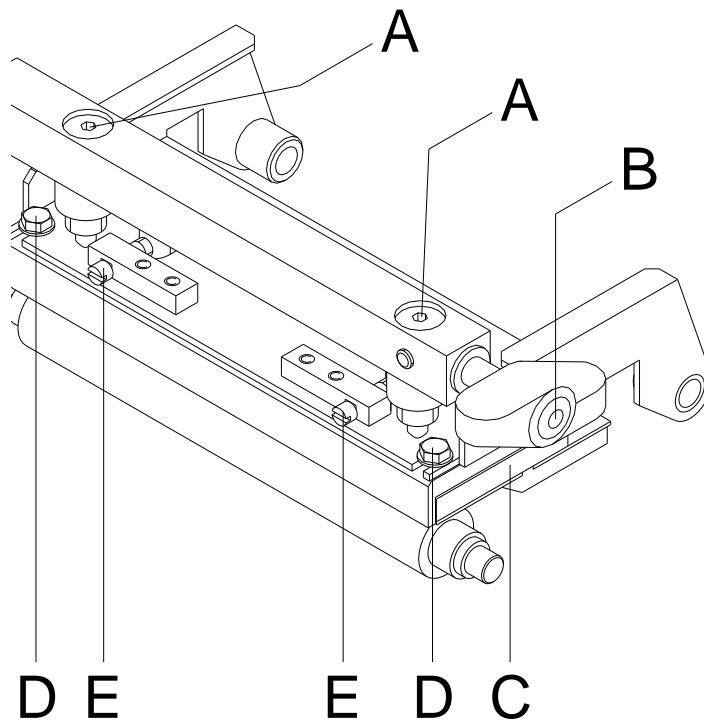

Figure 13
1. Turn the pressure screws (A, Figure 13) to change the pressure of printhead.
2. Turning the pressure screws (A, Figure 13) in clockwise direction results in a pressure increase.
3. Turning the pressure screws (A, Figure 13) counter clockwise results in a pressure decrease.